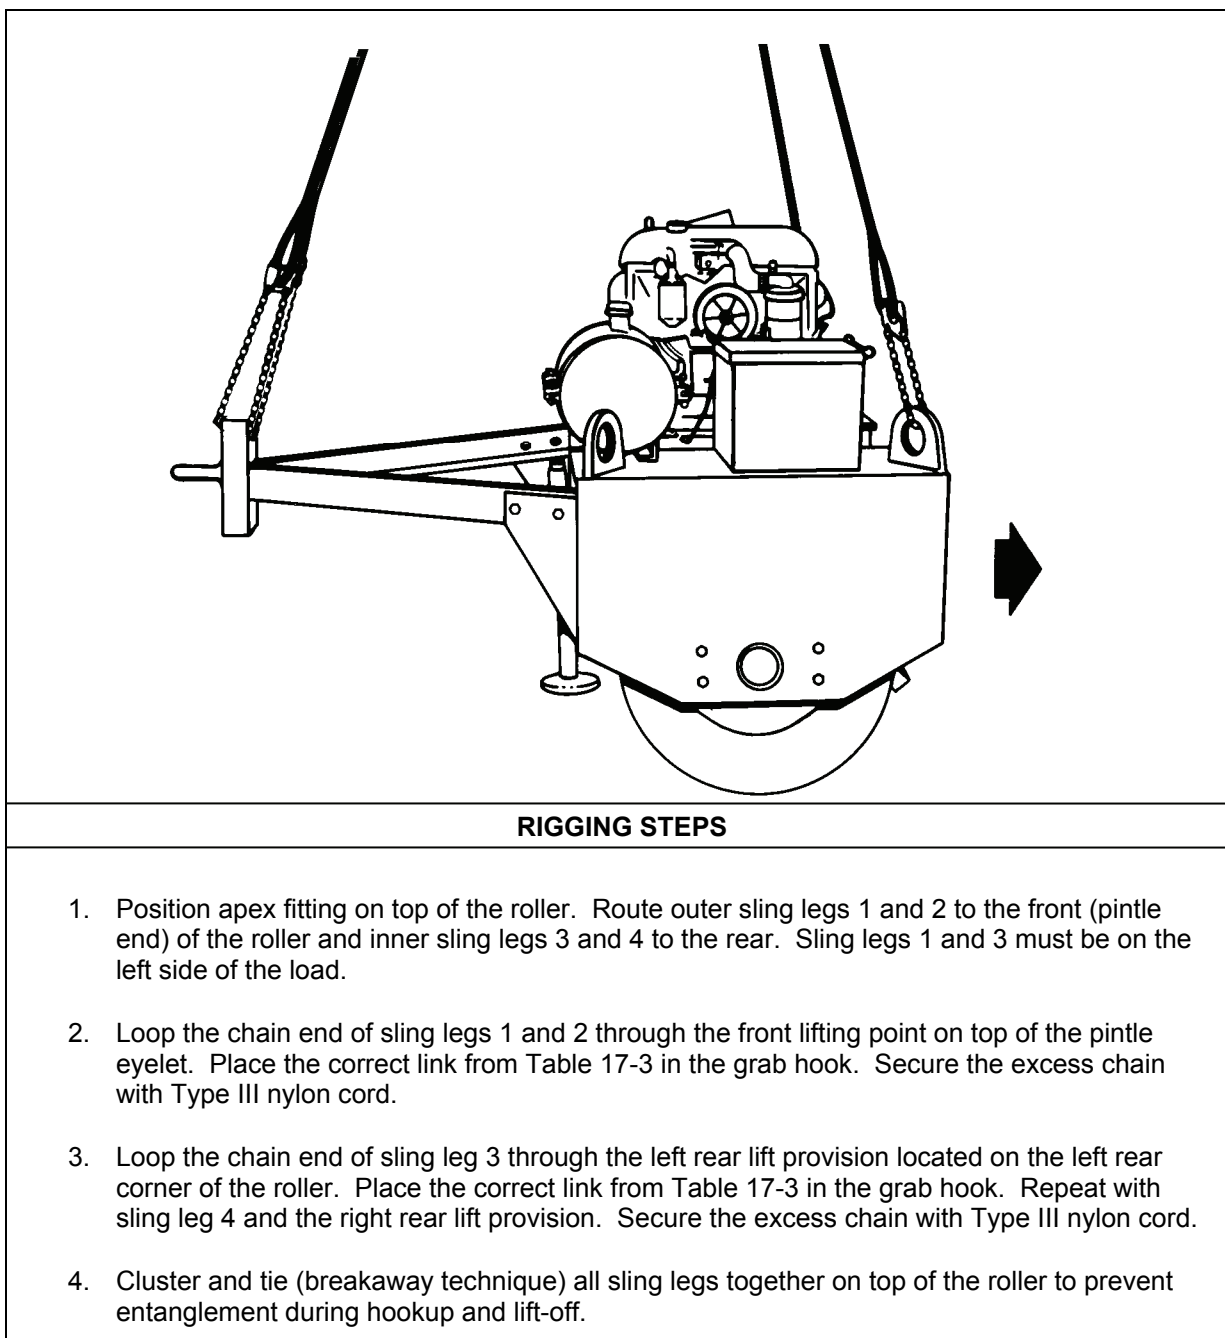

Figure 17-3. Roller, Towed, Vibrating, 1-Drum, 5-Ton, VR55TM
- **Rigging.** Rig the load according to the steps in Figure 17-3.